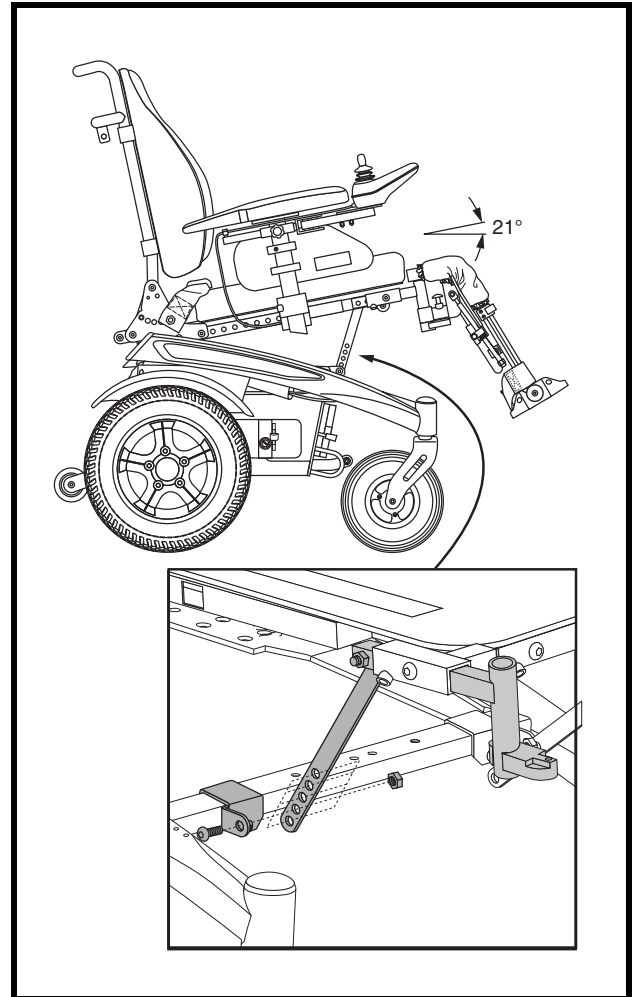

Figure 12. Seat Angle (Dump) Adjustment
2. Remove the seat angle adjustment bolt. **See figure 12.**